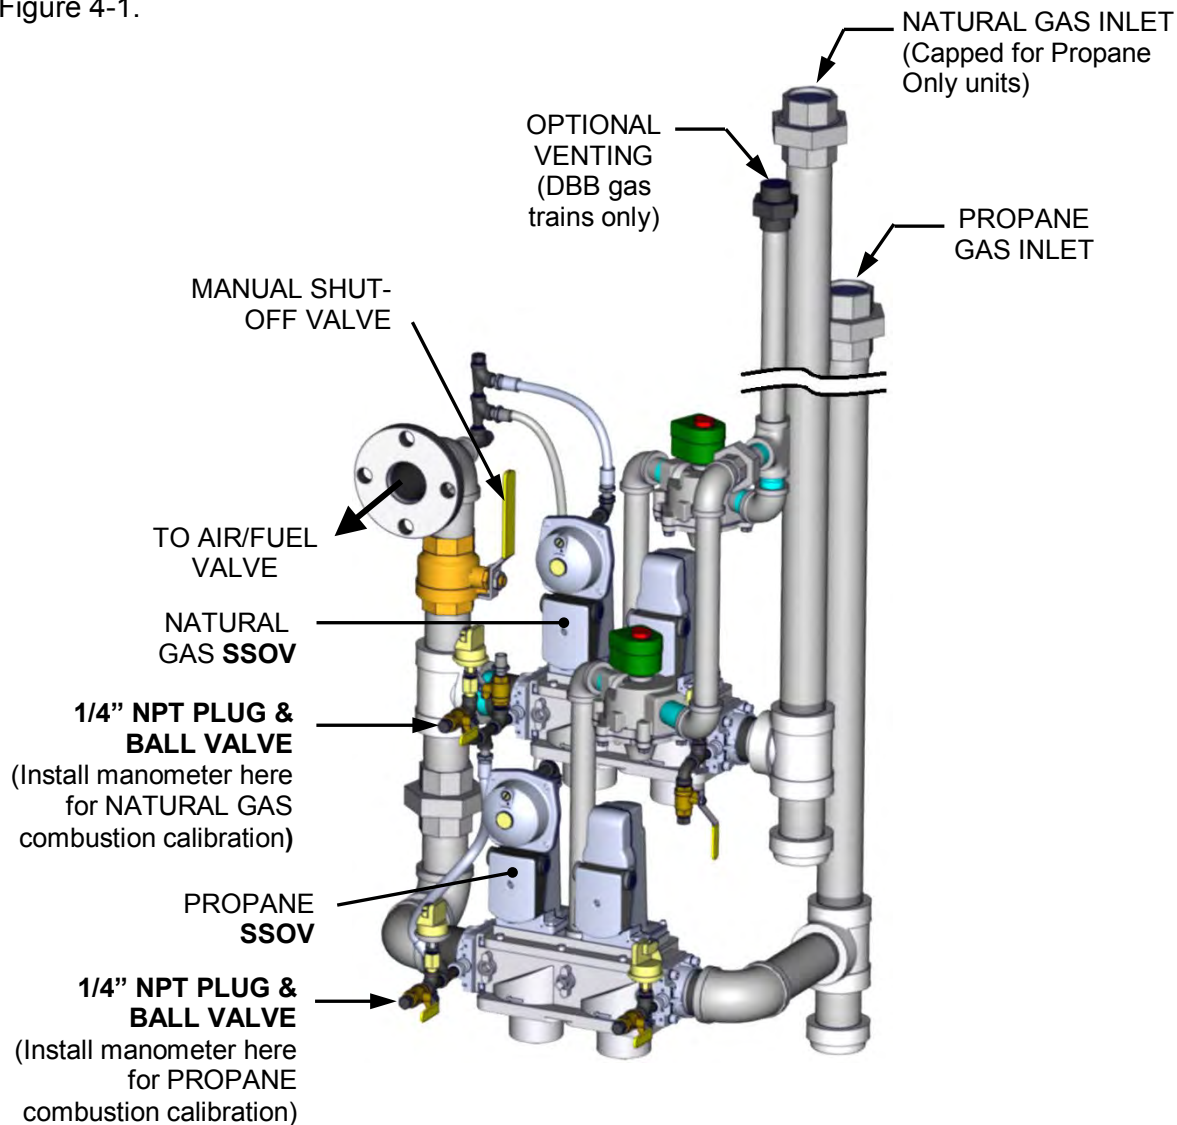

Figure 4-1: 1/4 Inch Gas Port Locations for Combustion Calibration (BMK 3000DF DBB Gas Train Pictured)
The gas supply manometer is installed at the upstream and/or downstream location shown in Figure 4-1.
3. To monitor the gas pressure on the downstream side of the SSOV during combustion calibration (section 4.4), remove the 1/4" NPT plug from the leak detection ball valve on the downstream side of the SSOV as shown in Figure 4-1.